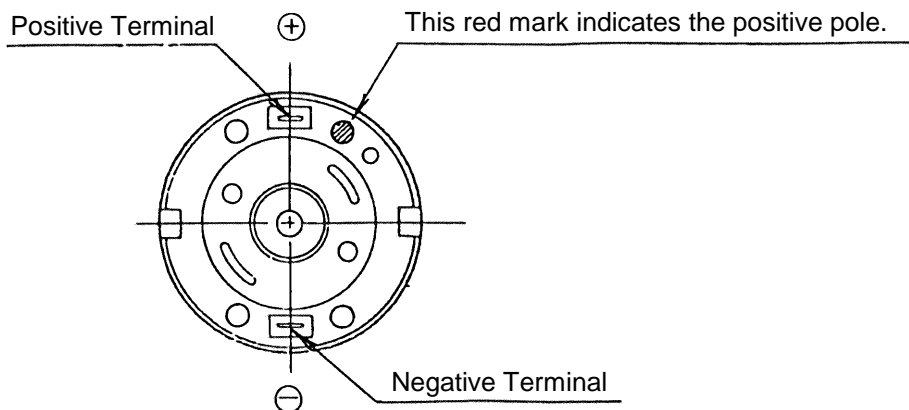

Fig. 3
(2) When soldering the Internal Wires (A) ⑨ (Red) and ⑩ (Black) onto the Motor ⑧, be very careful ensure correct Motor polarity. As illustrated in Fig. 3, there is a red mark close to the terminal which indicates the positive pole.